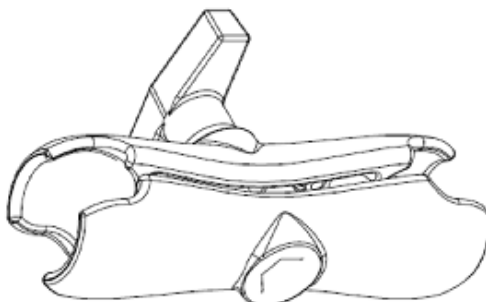

Figure 2.7. Double socket arm
- Double socket arm (refer to Figure 2.7)